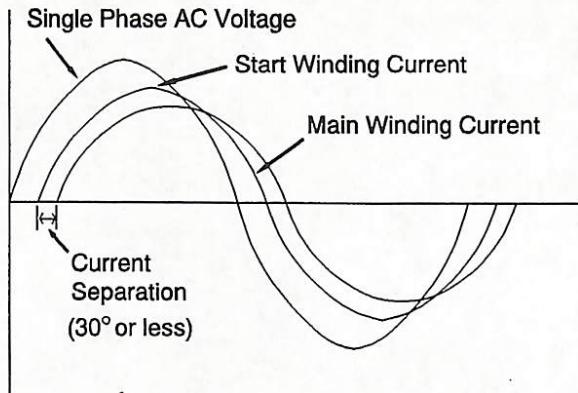

Figure 5.
**Split-Phase Induction Motor.** Two sets of windings, main winding (run winding) and start winding are included in the stator. The purpose of the two sets of windings is to "split" the single-phase AC voltage into a two-phase current, as shown in Figure 5. The start winding has only a few turns of very light-gauge or thin wire and a small inductance (few turns of wire). The main winding has many turns of large-diameter wire; therefore, the main winding has a smaller resistance (large-diameter wire) and a large inductance (many turns). According to  $ELI$ , voltage leads current in an AC inductive circuit. As inductance increases, so does the lag in current flow which would ultimately cause a large phase difference.